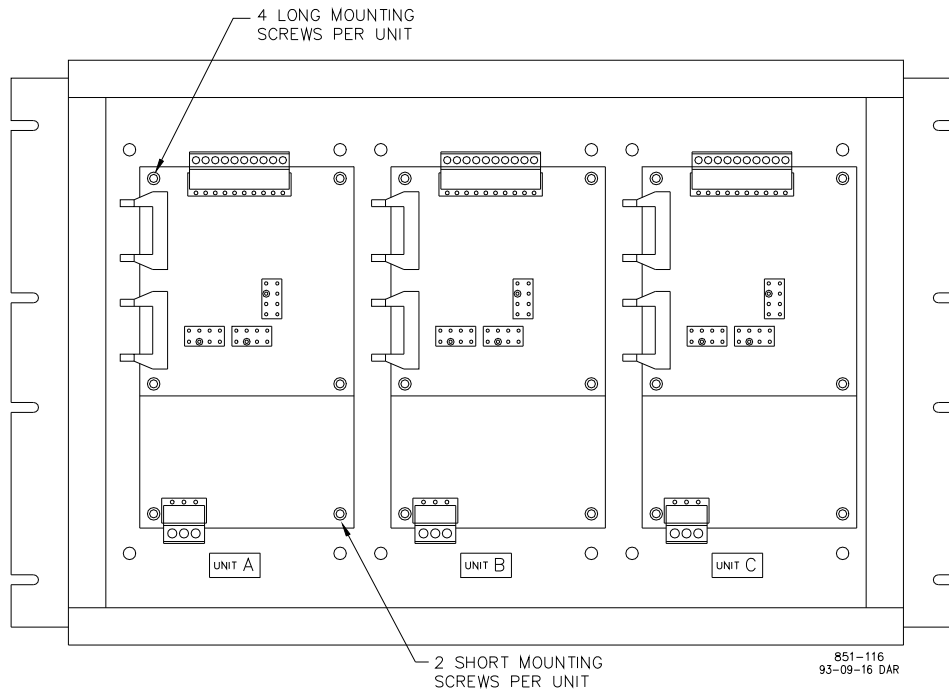

Figure 5-3. Board Locations
6. Unscrew the four long screws holding the two-board pack together (Figure 5-3).
7. Disconnect the ribbon cables from the top (I/O) board, and remove the board from the unit (Figure 5-3).
4. Insert and position the new power supply board (Figure 5-3).
8. Insert and position the I/O board on top of the power supply board (Figure 5-3).